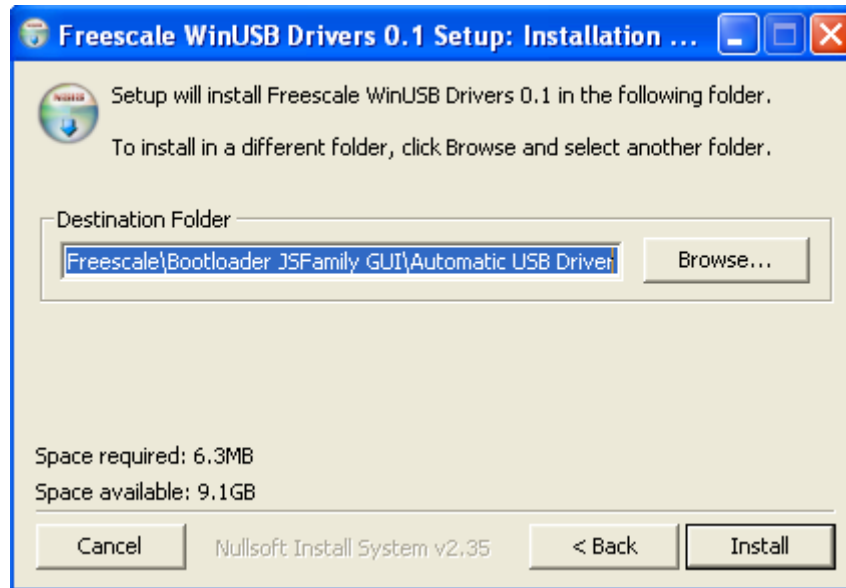
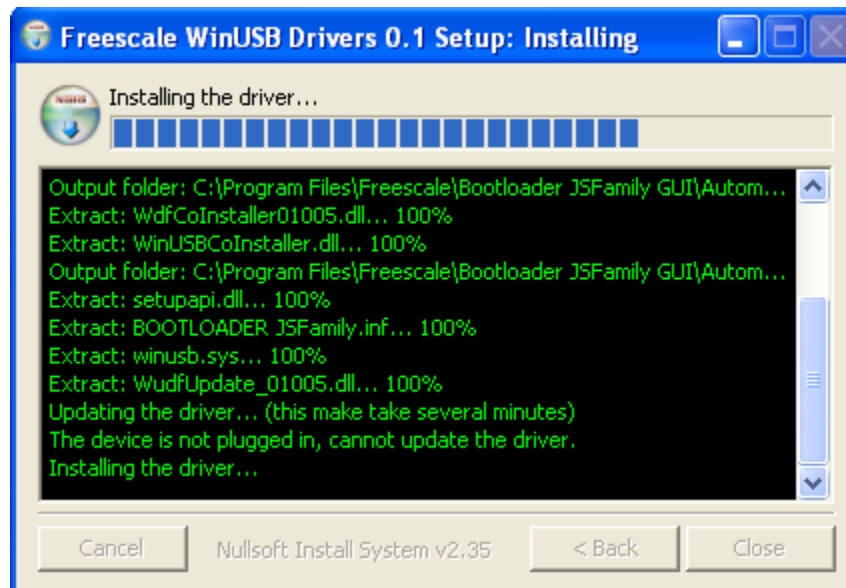

Figure 7. Select the USB Driver Installation Path
Figure 8. Copying the USB Driver Files
6. After the user sets the USB driver installation path (Figure 7), the installation wizard begins to copy the USB driver files to the destination folder (Figure 8).